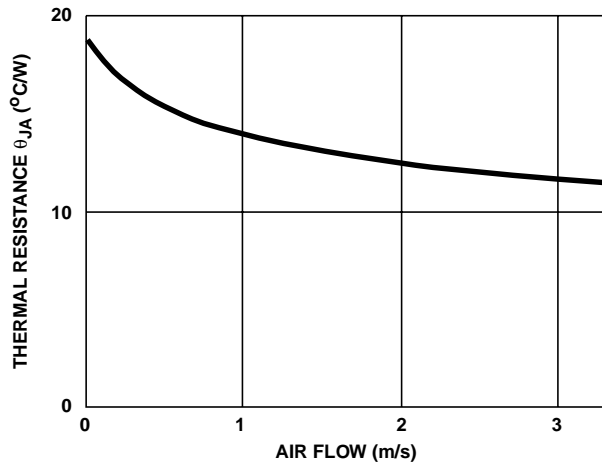

FIGURE 2. THERMAL RESISTANCE MOUNTED ON-BOARD
5.  $T_A$  is specified in still air and without heatsink. To extend temperature range, appropriate heat management techniques must be employed (See Figure 2).**Timing Diagram****FIGURE 1.**